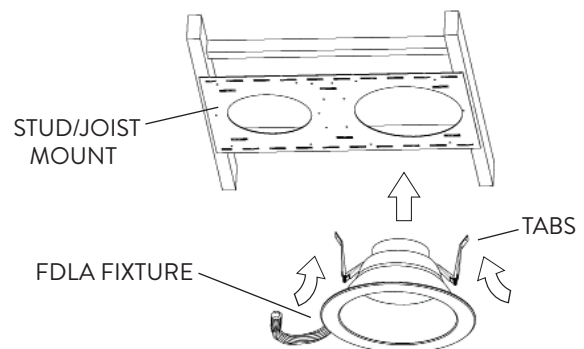

FIG. 9
- 3 Prior to installation, shut power OFF to the fixture. With the retention Tabs upward, slide in the FDLA Fixture through the correct circle of the Stud/Joist Plate Mount (Fig. 9). Please refer to the wiring diagram.